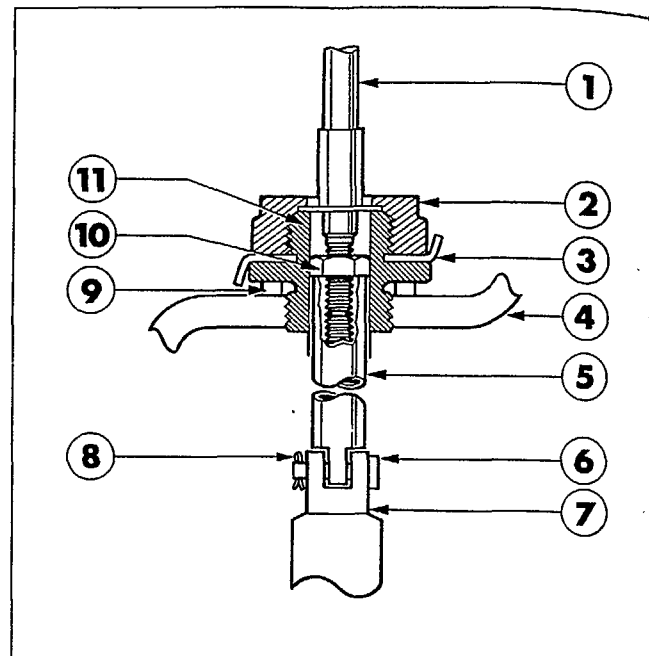

Figure 7
5. Disconnect the dual power control valve extension rod from the valve spool by removing the cotter pin and clevis pin, see Figure 7.